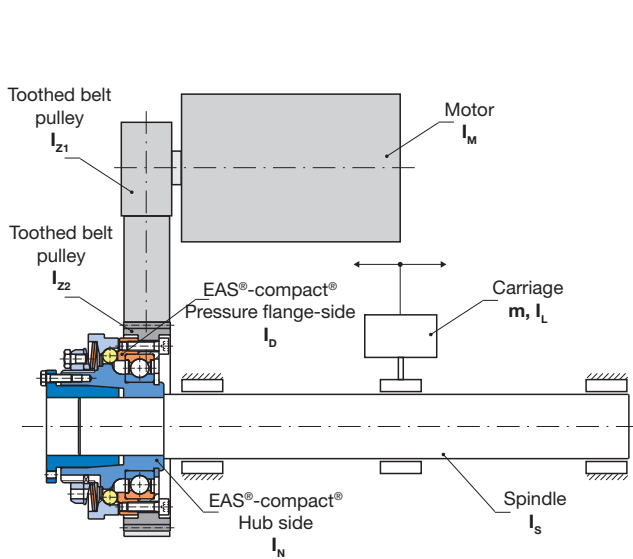

Fig. 1
- Turn the adjusting nut (5) according to the facing-side graduation scale Fig. 1) **anti-clockwise** from 70 % to 80 % on the adjustment scale using a face wrench.